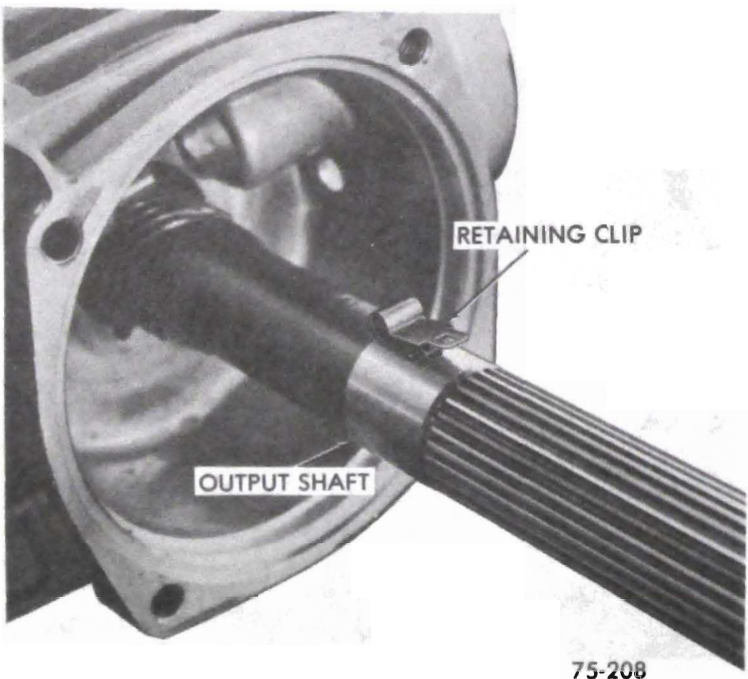

Figure 75-252
1. Place speedometer drive gear retaining clip into hole in output shaft. See Figure 75-252.